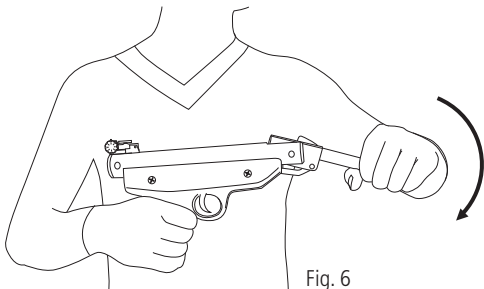

Fig. 6
**Cocking the gun:** Hold the pistol grip with one hand and break the barrel all the way down with the other hand (Fig. 6 & 7).